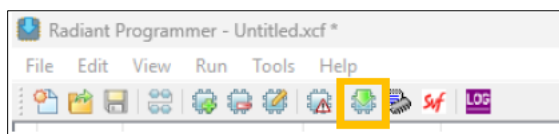

Figure 11.5. Radiant Programmer – To start the Provisioning
6. Click the Program Device button to start the provisioning. The device provisioning starts immediately (Figure 11.5).